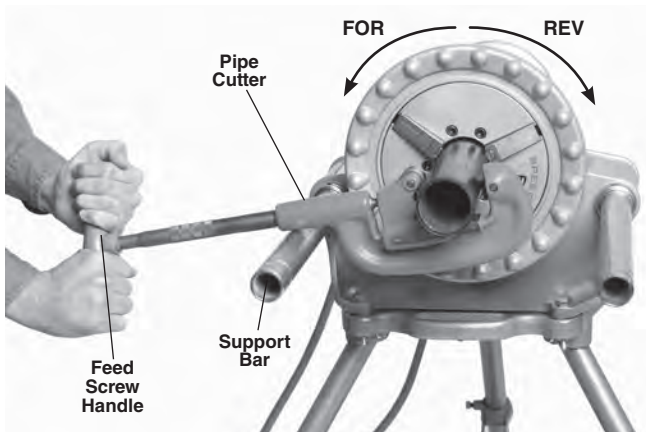

Figure 15 – Cutting Pipe with Hand Cutter/Machine Rotation (Keep Cutter in Contact with Support Bar.)
- Move the REV/OFF/FOR switch to FOR position. Press and release the foot switch. Chuck should rotate counterclockwise when viewed from support bars side of the machine (see *Figure 15*). Repeat for REV operation – chuck should rotate clockwise. If machine does not rotate in correct direction, or foot switch does not control the machine operation, do not use the machine until it has been repaired.
Remove 311 Carriage before using 300 Power Drive with hand tools to cut, ream or thread pipe. Ensure switch side support bar is fully extended beyond the front of the Power Drive (*Figure 15*).
1. Open cutter by turning the feed screw counterclockwise. Place cutter open side up (as shown in *Figure 15*) and align the cutter wheel with mark on the pipe. Cutting threaded or damaged sections of pipe can damage the cutter wheel.